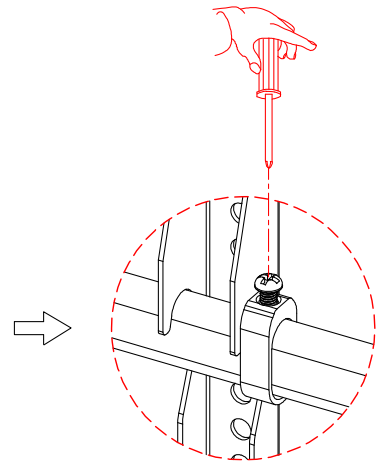

Figure 5B
4. Use a screwdriver to tighten the screws on the top of each Stopping Block. (Fig. 5B)